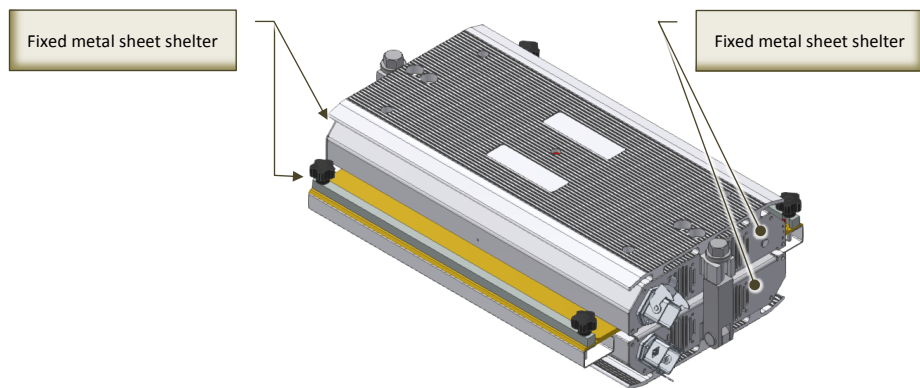

Fig. 7-8 - Fixed protection guards for cooling fans
- **Fixed guard** - guard held in position (i.e. closed) permanently (by welding, etc.) or by means of fasteners (screws, nuts, etc.) that make it impossible to remove/open without the aid of tools (Fig. 7-8).